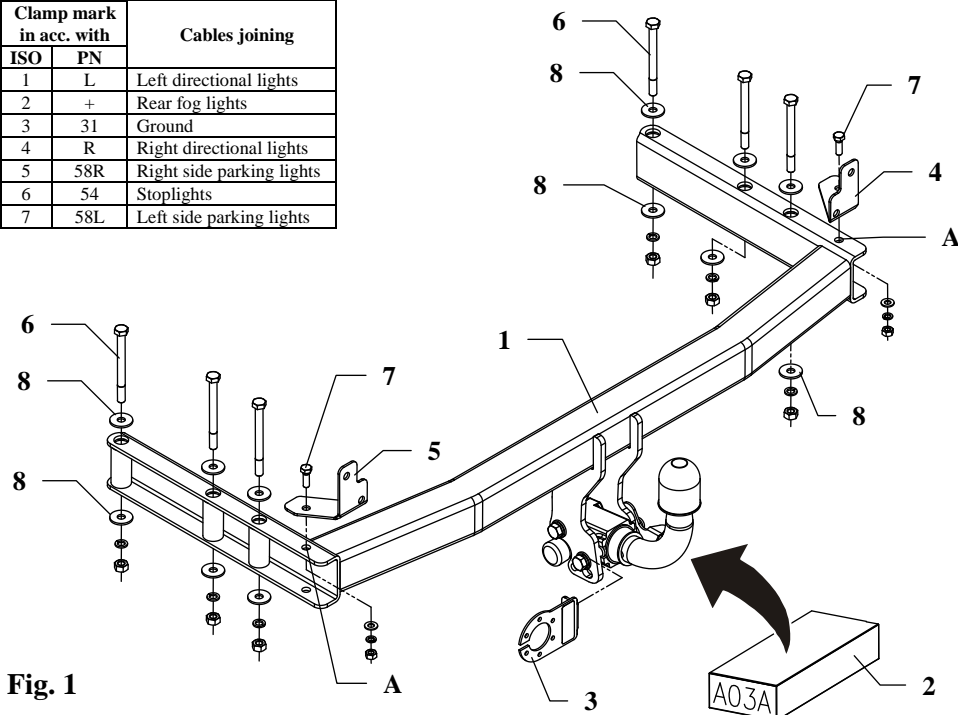

Fig. 1
3. Through holes of towbar pos. A fix handles (pos. 4 and 5) using bolts M8x25mm (pos. 7).
5. Main bar of the towbar together with bumper slip into chassis members in this way, so holes of towbar agree with original prepared holes and fix from inside bumper using bolts M10x110mm (pos. 6) as shown in figure 1.